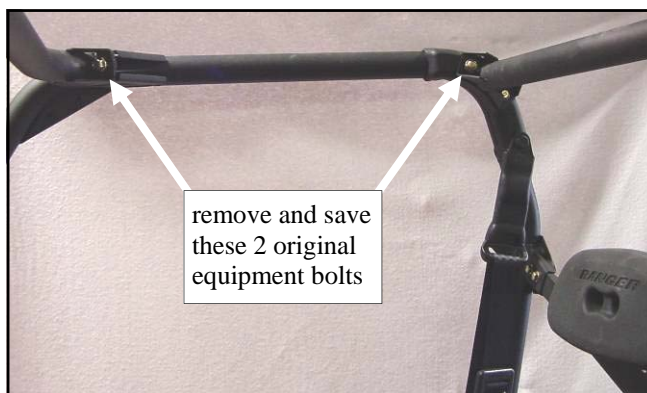

Fig. 1.1 (view from driver's side)
1.1 Per fig. 1.1, remove and save the two original equipment hex head bolts shown in the upper inboard corners of the R.O.P.S. tubing (Roll Over Protection Structure). These bolts will be re-used in step 1.3 below.